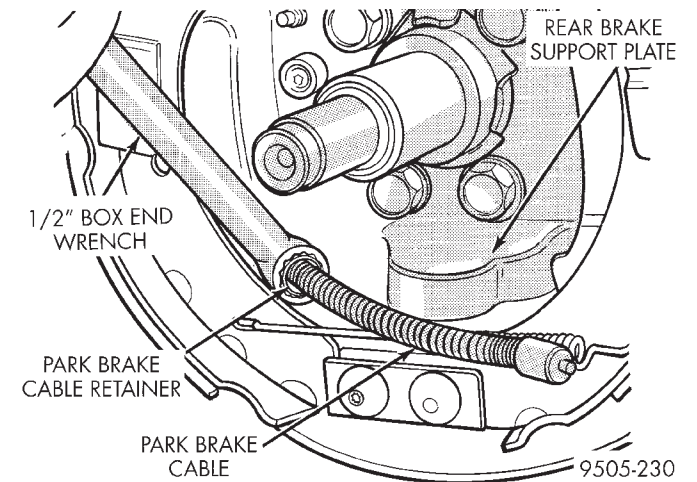

Fig. 75 Removing Park Brake Cable From Support Plate
(7) Position a 1/2 wrench over the retainer fingers on the end of the parking brake cable (Fig. 75). Compress cable housing retaining fingers and start cable housing out of support plate (Fig. 75). Remove wrench when retainer is free from the park brake cable mounting hole in the rear brake support plate. Alternate method is to use a aircraft type hose clamp over cable housing end fitting compressing the three fingers.